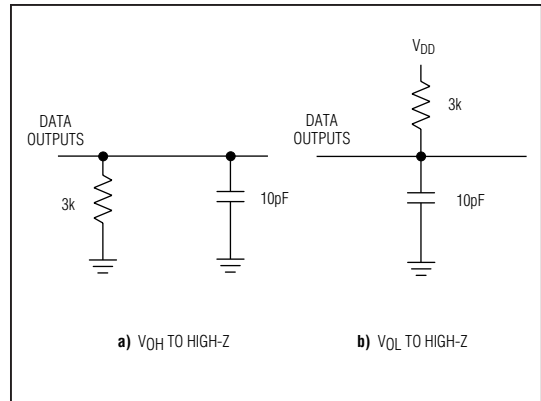

図2. データホールド時間テスト用の負荷回路
**Note 6:** See Figure 2 for load circuit. Parameter defined as the time required for the data lines to change 0.5V.